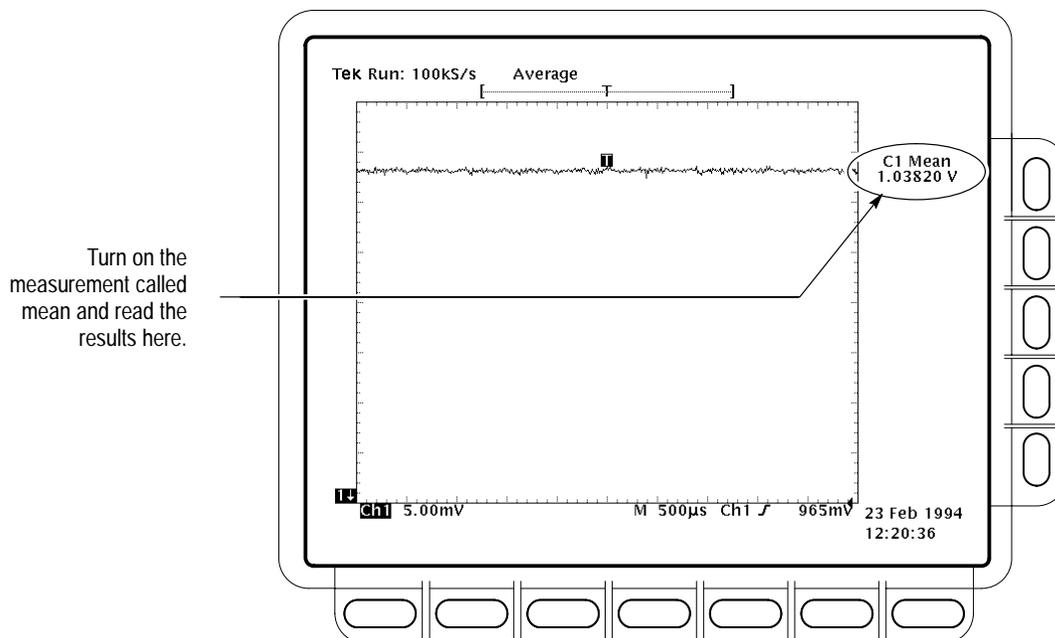

Figure 4-6: Measurement of DC accuracy at maximum offset and position
- e. *Measure the test signal:* Press **CLEAR MENU**. Read the measurement results at the **Mean** measurement readout. See Figure 4-6.